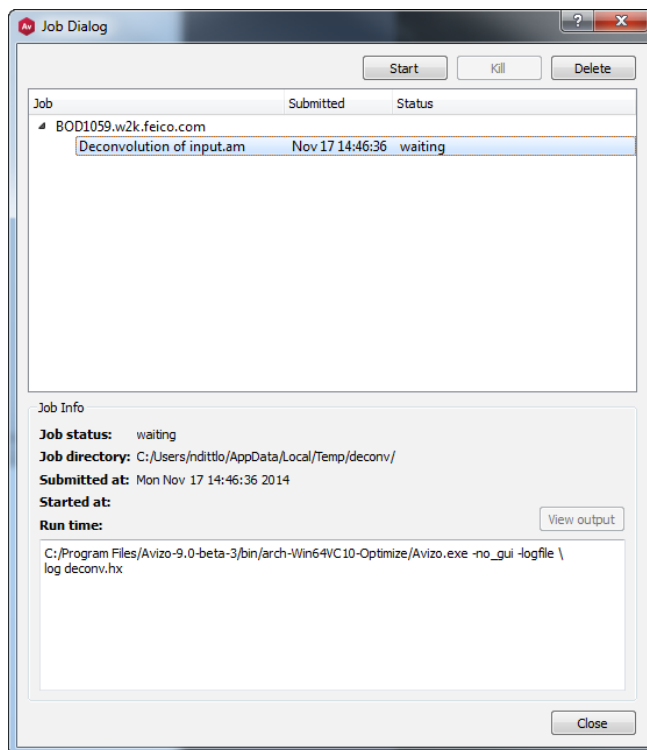

Figure 3.42: The Amira job dialog showing a pending deconvolution job.
- Press the *Submit* button of the deconvolution dialog. After a few seconds the Amira batch job dialog appears, compare Figure 3.42.